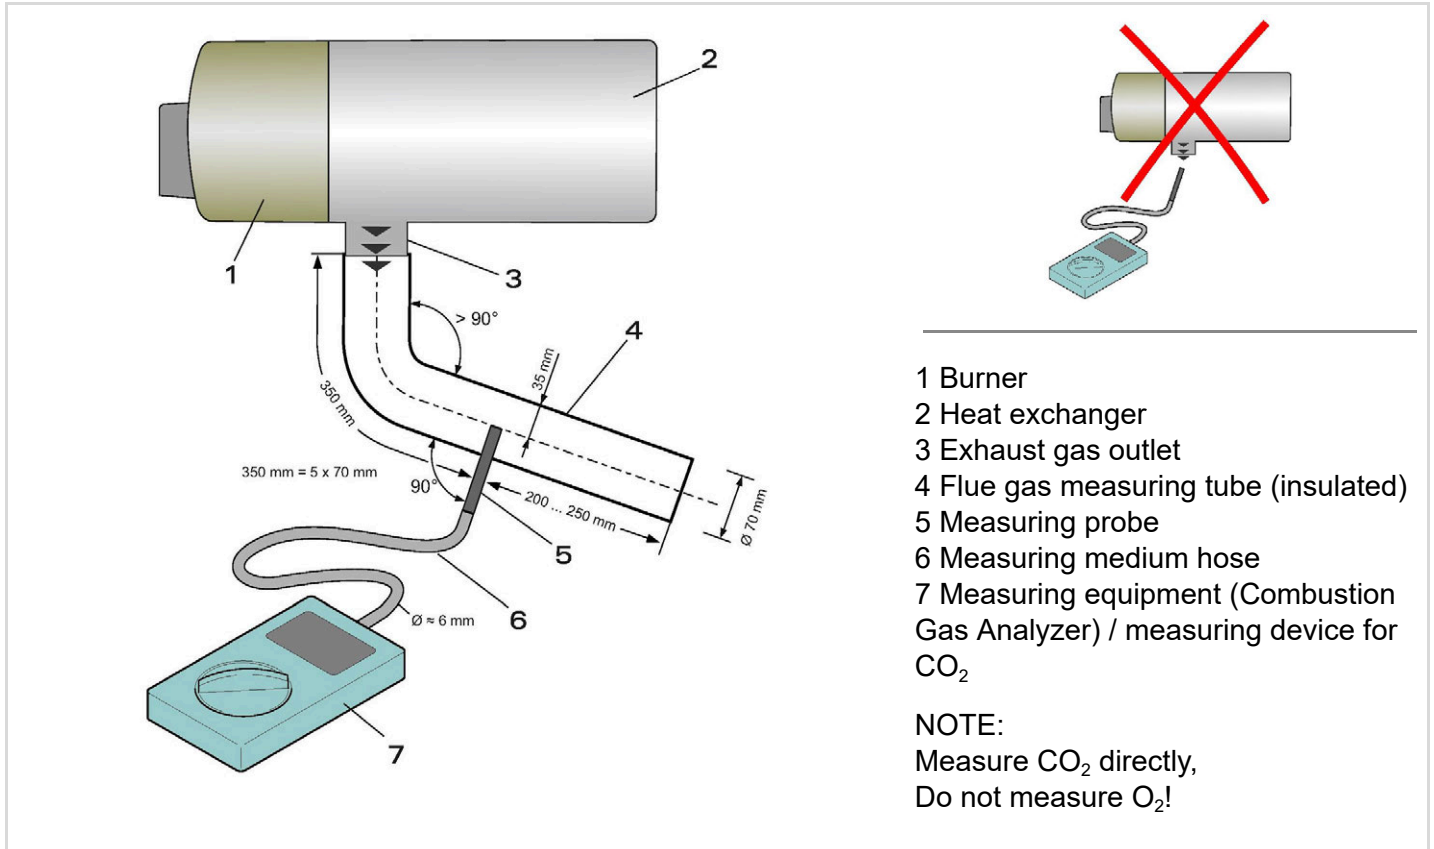

Fig. 1: Measuring the CO2 content with measuring equipment / measuring device for measuring CO2
Position the sampling probe of the CO2 measuring device in the center of the flue gas pipe at a distance of approx. 350 mm (12 inches) behind the exhaust gas connection (3). See fig. 1: